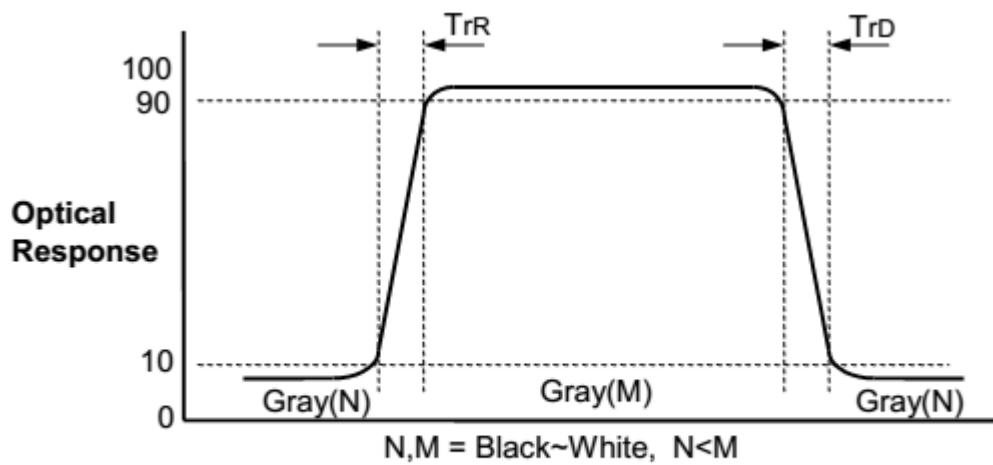

FIG. 3 Response Time
4. Response time is the time required for the display to transit from G(N) to G(M) (Rise Time, Tr_R) and from G(M) to G(N) (Decay Time, Tr_D). For additional information see the FIG. 3. ($\text{N} < \text{M}$)